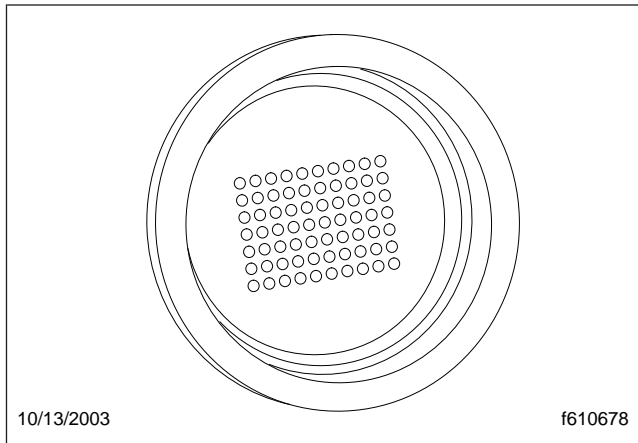

Fig. 8.14, Power-Up Dot Display
3. After the ignition is turned on, the current gear indicator shows the dot display, arranged in a square pattern. All dots in the pattern should light up, without gaps or spaces. See Fig. 8.14.